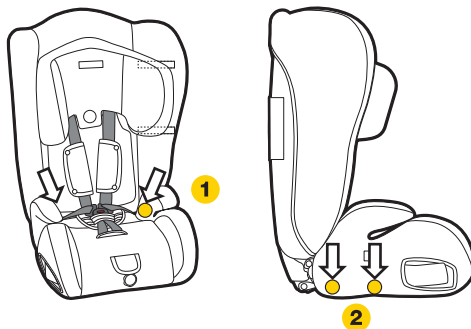

Figure 4
Step 2: Unclip the press studs located (refer Figure 4):